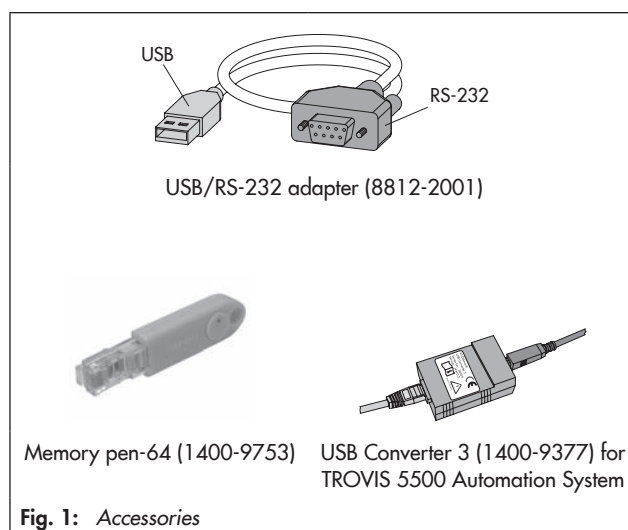

Fig. 1: Accessories
Table 1: Accessories (Fig. 1 to Fig. 3)
* Under Windows® 2000, Windows® XP, Windows® Vista and Windows® 7, the connection can be made either using the computer's COM port, the USB/RS-232 adapter or USB Converter 3 (Fig. 1).